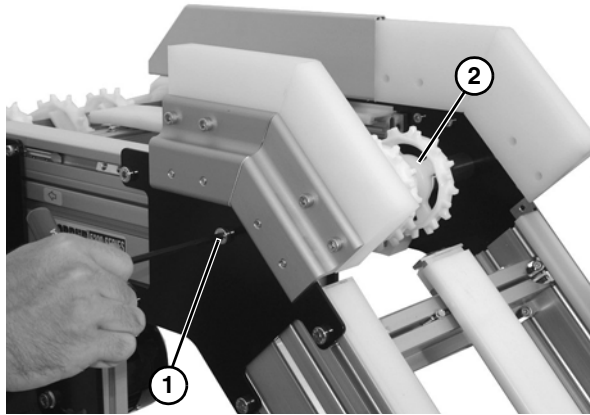

Figure 67
1. Remove socket head cap screw (**Figure 67, item 1**), on each side of upper knuckle assembly, and remove shaft and sprocket assembly (**Figure 67, item 2**).